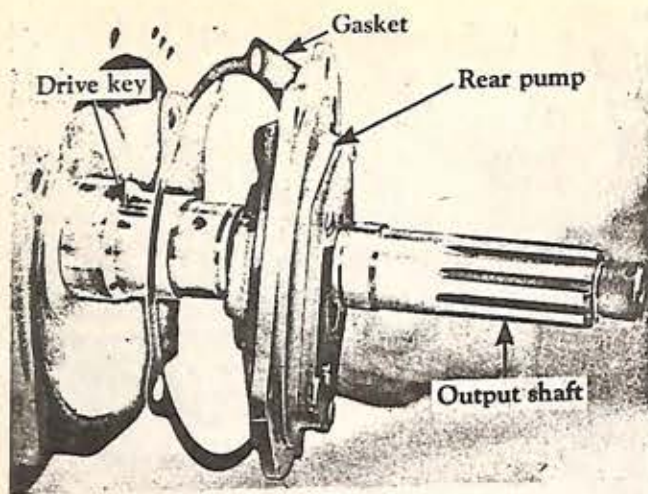

Fig. 49
1. Remove the rear pump and gasket from the transmission case (Fig. 49).
2. Remove the rear pump drive key from the output shaft (Fig. 49).